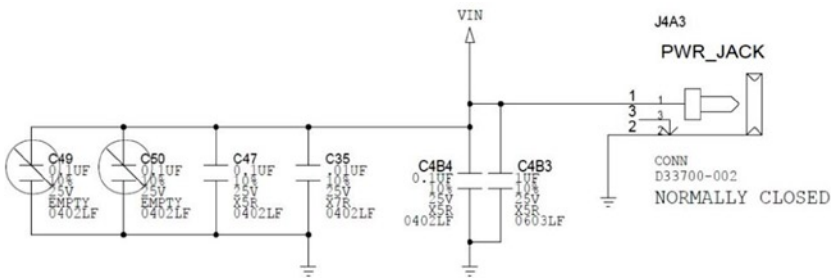

Figure 1-10. VIN connected directly to power jack DC
- There is no VIN jumper anymore. The VIN is connected directed to the DC jack, as you can see in Figure 1-10. You can check this in the schematics discussed in the section.